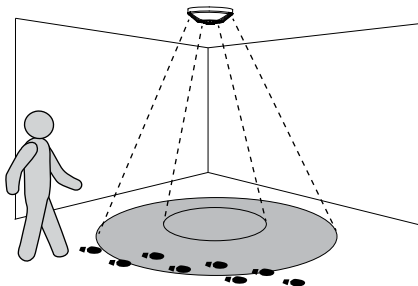

Figure 21. Walking across the detection area during testing and adjustment.
2. Walk within the desired detection coverage of sensor. walk across the detection area at an angle as shown in Figure 21.